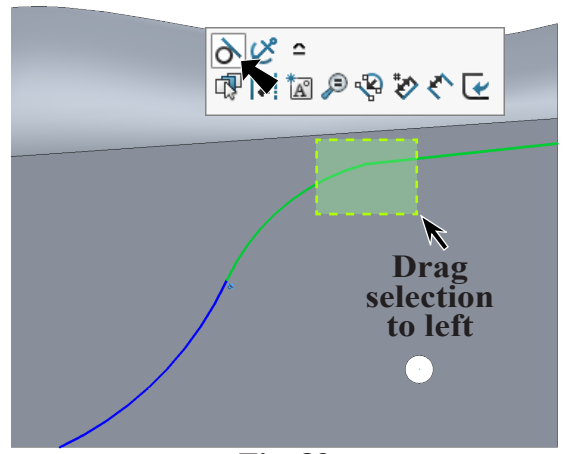

Fig. 83
Step 11. Drag a **selection to left around ends of centerpoint arc and line** to select both. Release Ctrl key and click **Make Tangent**  on the context toolbar, **Fig. 83**.